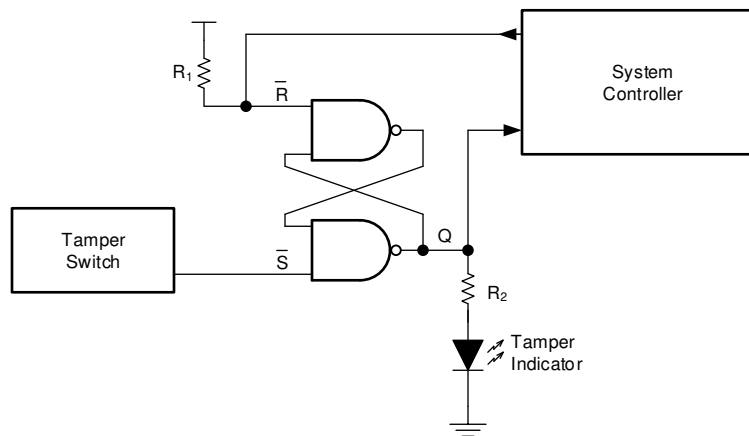

図 8-1. Typical Application Block Diagram
図 8-1 shows how the SN54SC4T00-SEP is used to up-translate a 1.8-V signal to 3.3 V to drive an LED in this application. The SN54SC4T00-SEP does not limit the output current, so an added output resistor is used to provide the appropriate current limiting. The resistor value (R) should be determined by the LED's forward voltage (V_D) and the desired forward current through the LED (I_D) using this equation: $R = (V_{CC} - V_D)/I_D$.